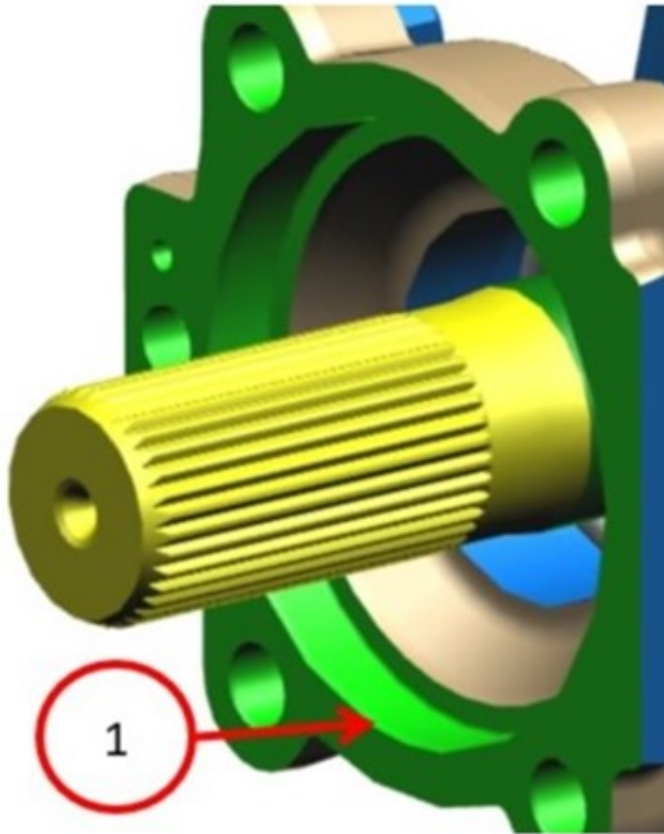

Fig. 3
- Lubricate the tube flange inside diameter with 75-85W sump lube as this aids in O-ring guidance Fig. 3.